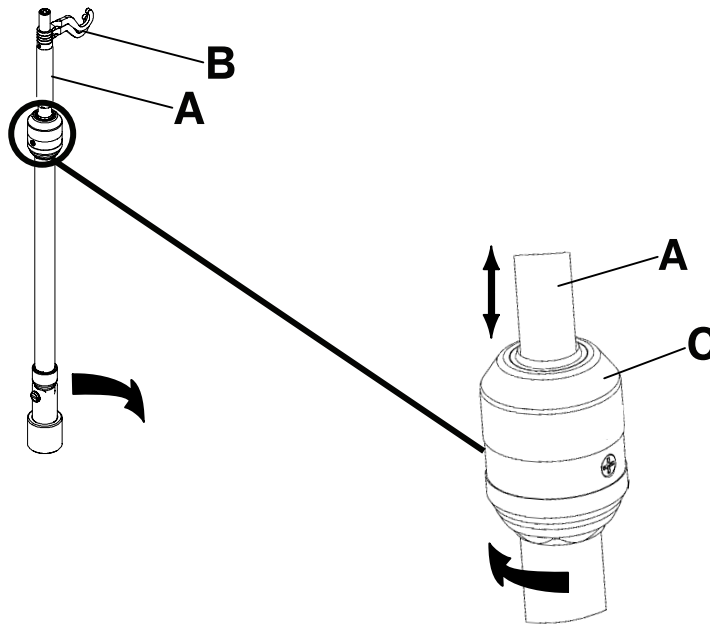

Figure 120: Operating the IV pole
3. To raise the height of the pole, pull up on the telescoping portion (A) until it locks into place at its fully raised position (Figure 120 on page 104).
4. Rotate the IV hangers to the desired position and hang the IV bags (B) (Figure 120 on page 104).
5. To lower the IV pole, turn the latch (C) until the telescoping portion lowers (Figure 120 on page 104).